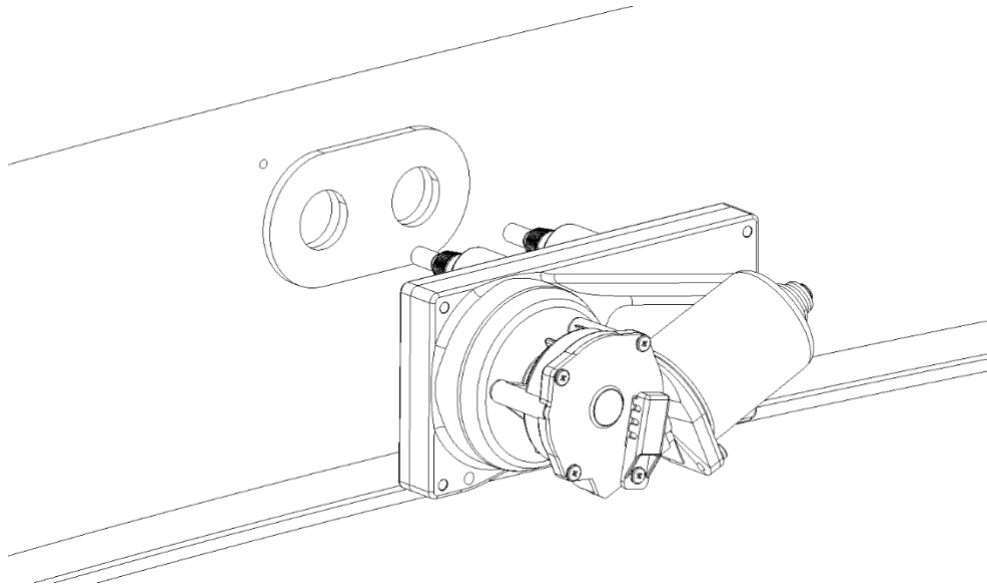

Figure 1
4. Fit the 2D Wiper System with the pivot shafts protruding through the drilled holes (see figure 1).